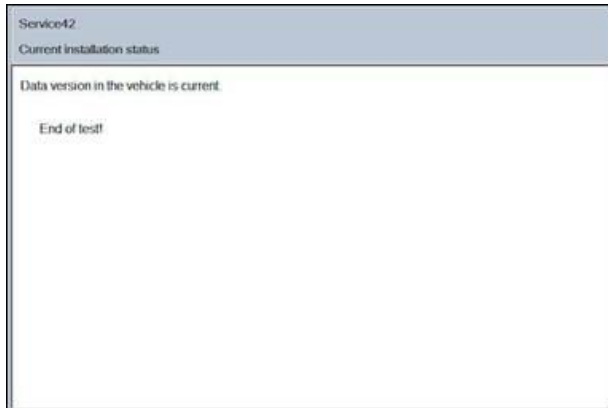

Figure 4.
10. After the software update has completed successfully, the ODIS tester displays a confirmation message (Figure 4).